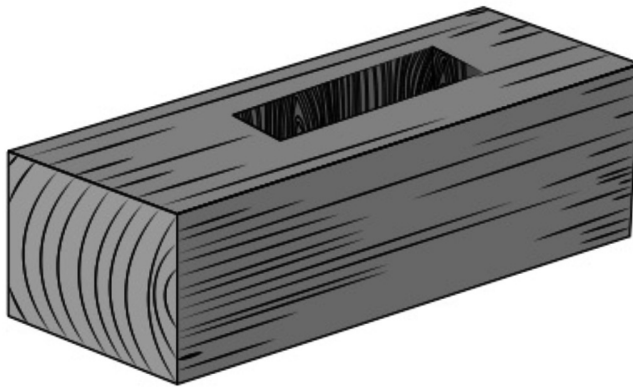

Fig. 2
- 2 **Figure 2** shows a marked rectangular hole to be chopped out of wood.